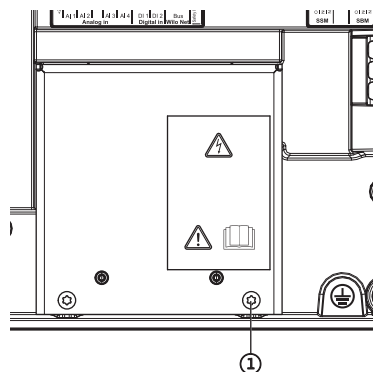

Fig. 114: EMC protective plate
4. Loosen the screws of the EMC protective plate (Fig. 114, Item 1) and remove the protective plate.